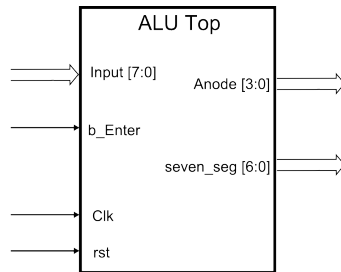

Figure 6: ALU\_top block
**Task 9** Initiate a project in Xilinx ISE environment and add the required VHDL files you have developed so far into that project. To connect the separate components of your design, add a new VHDL source file into the project and develop the VHDL code for the ALU top structure. Use the interface model shown in Figure 6 for the top structure.
**Task 8** This is the last major block needed to complete your system. Develop the VHDL code for the four digit 7-segment display. This involves: (1) Considering time multiplexed selection of 7-segment modules. (2) Illuminating the required segments of each module based on the digit to be displayed. Use the left most module to show "-" when the result is negative or "F" when an overflow has occurred.